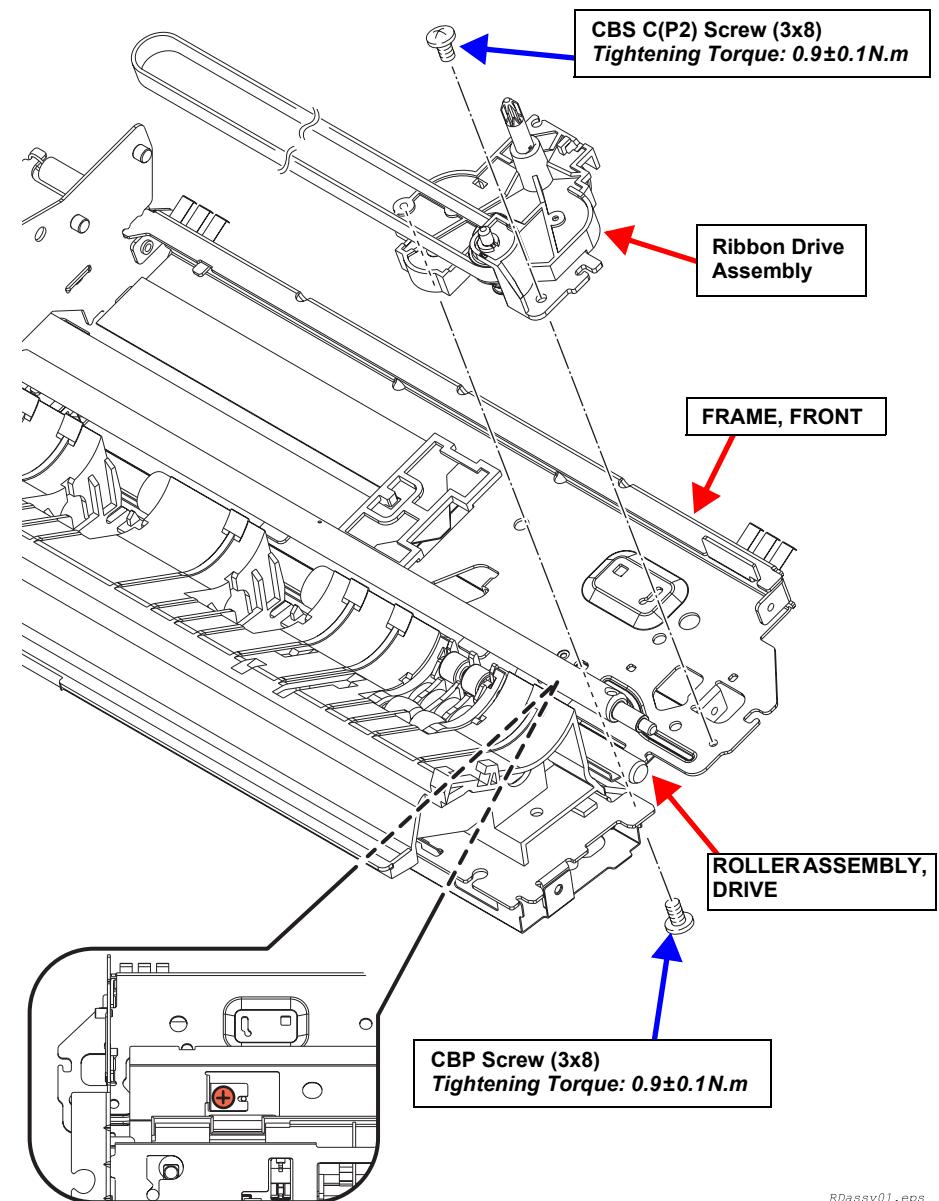

Figure 4-31. Ribbon Drive Assembly Removal 1
10. Remove the CBS C (P2) (M3x8) screw and the CBP (M3x8) screw securing the Ribbon Drive Assembly. (*See Figure 4-31*)